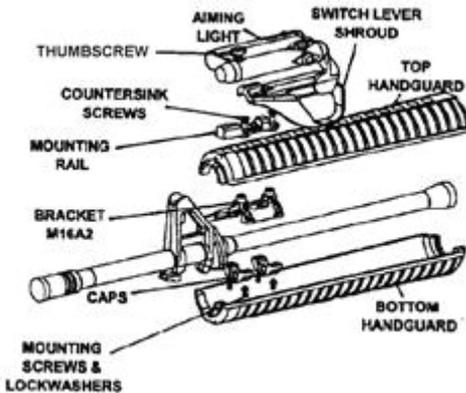

Figure 071-100-0039-2. M16A2/M4 mounting bracket
- (1) Use a M16A2/M4 mounting bracket, standard rail grabber, or insight rail grabber on a M16A4 rifle or M4-series carbine.
- (2) Use a M16A2/M4 mounting bracket or an alternate M16 mounting bracket on an M16A2 rifle.
- (3) Use an alternate M16 mounting bracket (with M16A1 barrel adapter) on an M16A1 rifle.
- b. Attach a M16A2/M4 mounting bracket (figure 071-100-0039-2).